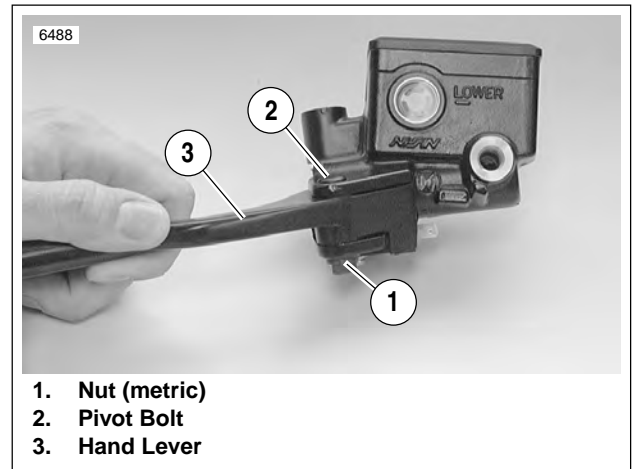
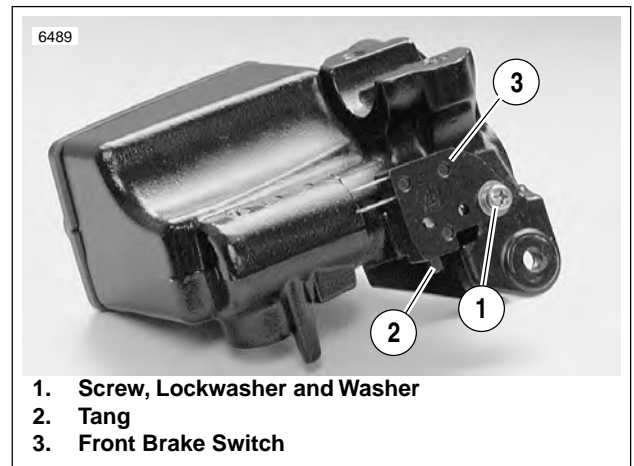
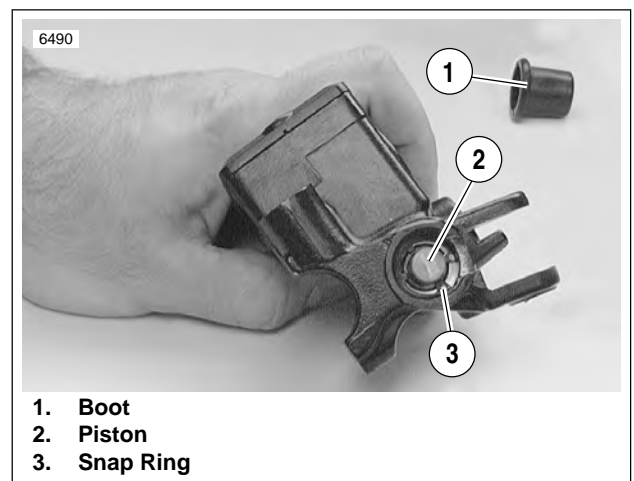
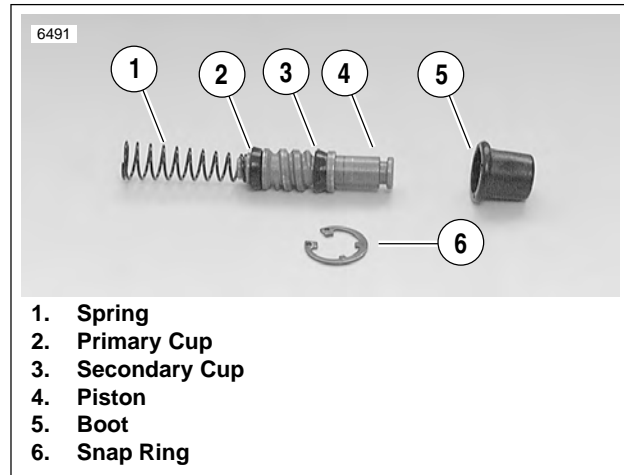

Figure 2-28. Hand Lever
Figure 2-29. Front Brake Switch
Figure 2-30. Snap Ring
Figure 2-31. Piston Assembly
- See Figure 2-28. Detach front brake hand lever.
- Remove nut (1) (metric) from lever pivot.
- Remove pivot bolt (2) from lever pivot.
- Detach front brake hand lever (3) from master cylinder assembly.
- See Figure 2-29. Remove screw, lockwasher and washer (1) holding front brake switch (3) to master cylinder assembly. Remove switch.
- See Figure 2-30. Compress piston (2) and remove rubber boot (1).
- Depress piston assembly and remove internal snap ring (3). Discard snap ring.
- See Figure 2-31. Remove piston assembly (1-4) from front master cylinder.
1. See Figure 2-31. Check piston assembly components.
- a. Small end of spring (1) sits behind primary cup (2). Large side of primary cup faces spring.
- b. Secondary cup (3) sits within ridge at middle of piston (4).
2. Insert piston assembly, spring first, into master cylinder. Secure with a **new** snap ring (6).
3. Install ridge on boot (5) into groove on piston (4).
4. See Figure 2-28. Install front brake hand lever.
- a. Align hole in lever (3) with hole in master cylinder assembly.
- b. Lubricate pivot bolt (2) with LOCTITE ANTI-SEIZE.
- d. Install nut (1) (metric). Tighten to 44-62 **in-lbs** (5.0-7.0 Nm).